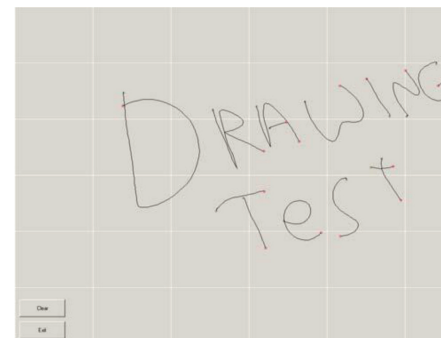

Figure 14
**Drawing Test.** The drawing test will display a full screen window to test calibration. Please refer to Figure 14 for clarification.